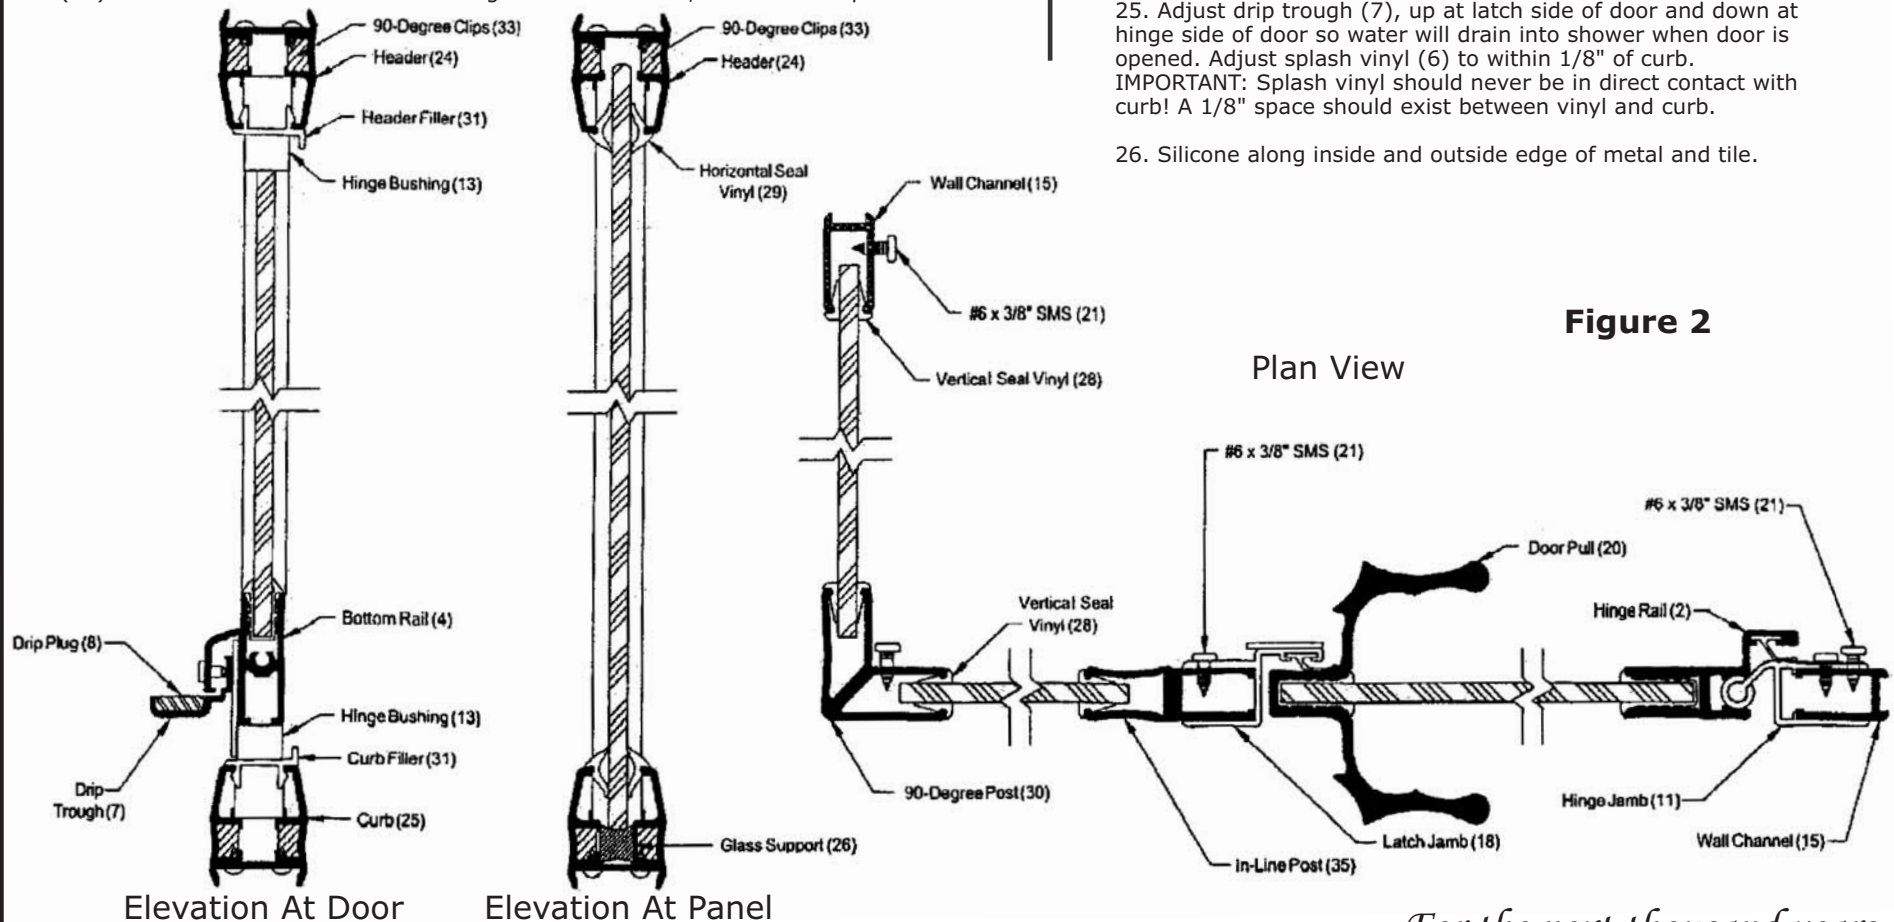

Figure 2
21. Complete the installation of vertical seal vinyl (28) in wall channel and corner post.
22. Install horizontal seal vinyl (29) at top and bottom of stationary panel both inside and out.
24. Adjust latch jamb (18) for good fit (normally 3/6" clearance from edge of door to latch jamb is perfect, see Figure 2). Now secure with #6 x 3/8" SMS (21).
25. Adjust drip trough (7), up at latch side of door and down at hinge side of door so water will drain into shower when door is opened. Adjust splash vinyl (6) to within 1/8" of curb. IMPORTANT: Splash vinyl should never be in direct contact with curb! A 1/8" space should exist between vinyl and curb.